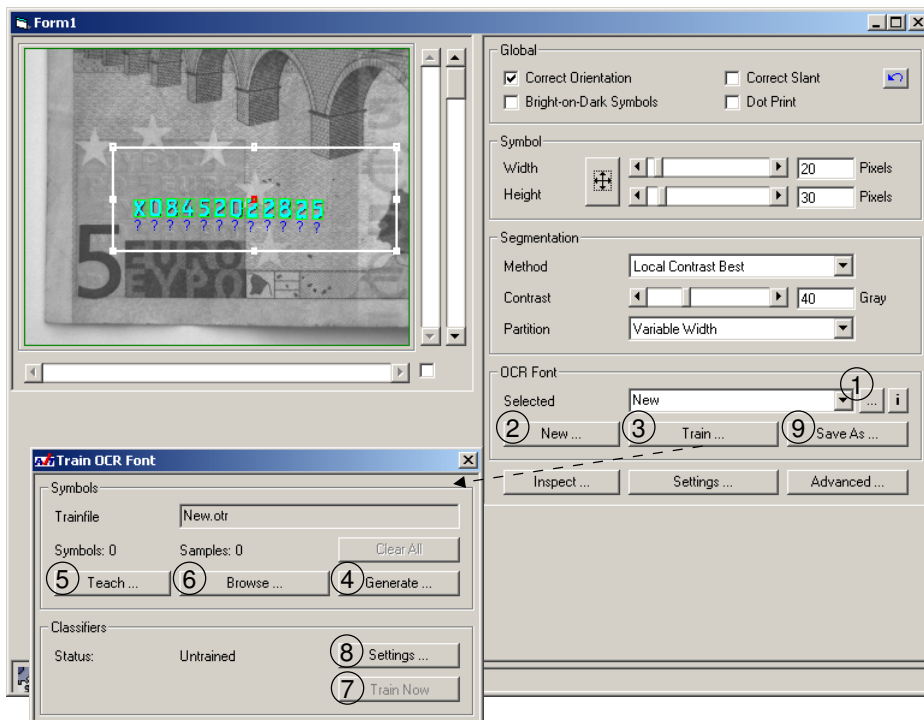

Figure 2.7: Overview over the basic dialog for the handling of OCR fonts .
ActivOCR provides a lot of support tools to handle OCR fonts. In the following, a short overview is given. The steps are visualized in figure 2.7.
- ④ generating them from any Windows font that is installed on your PC (**Generate**; see section 2.3.3 on page 26),
- ⑤ teaching them from images (**Teach**; see section 2.3.4 on page 28), or
- ⑥ varying existing samples (**Browse**; see section 2.3.6 on page 36).
It is possible to browse and edit trainfiles (⑥ in figure 2.7), e.g., to delete selected samples or to move them from one symbol to another (**Browse**; see section 2.3.5 on page 32).